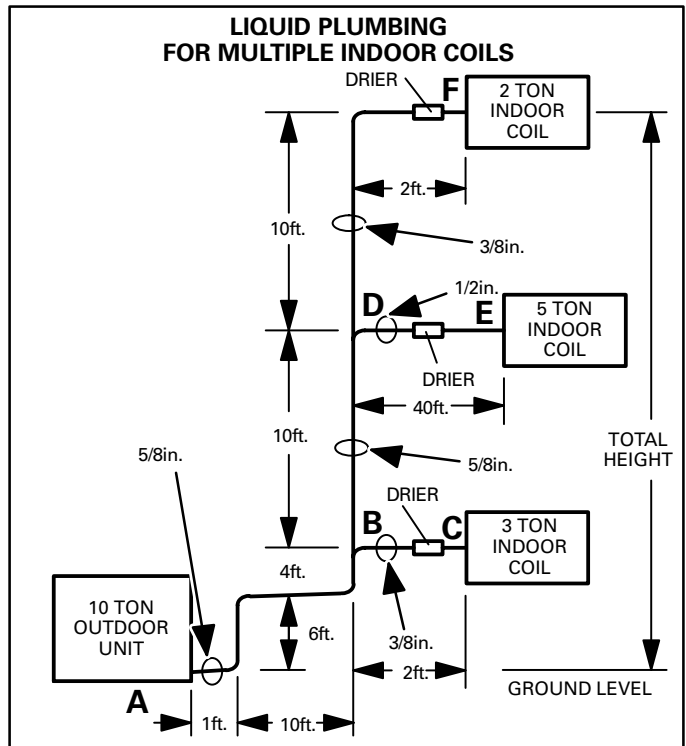

FIGURE 18
**Given:** 10 ton commercial (single speed) condensing unit on ground with three evaporators above condenser. See figure 18.